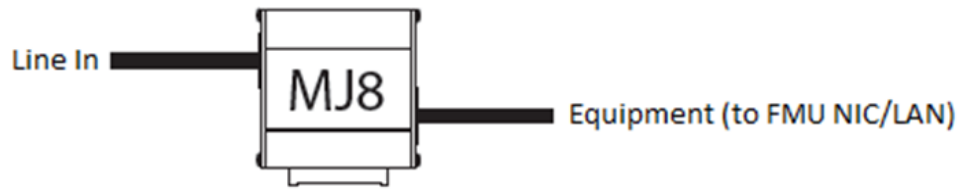

Figure 36 Ethernet Cable Connected to the 'Line' Input on the Surge Protector
- 3 Attach the ethernet cable into the blue surge protection device (Figure 34- Figure 36 page 44-45).